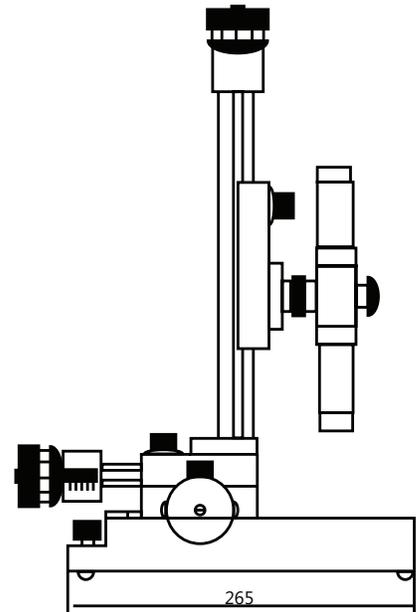

Figure 27.37
- (a) A travelling microscope (Fig 27.37) consists of an ordinary compound microscope M which is capable of moving along both vertical and horizontal directions. The movement in any direction can be read by a fixed main scale S and a sliding vernier scale V. There is a horizontal metal platform which can be levelled by means of the levelling screws L and a small spirit level over the base. The vertical motion is controlled by two screws, one is called the fixing screw and other as tangent screw, and the later imparts slow motion only when the former is fixed. Similarly, there are two screws for the horizontal motion.